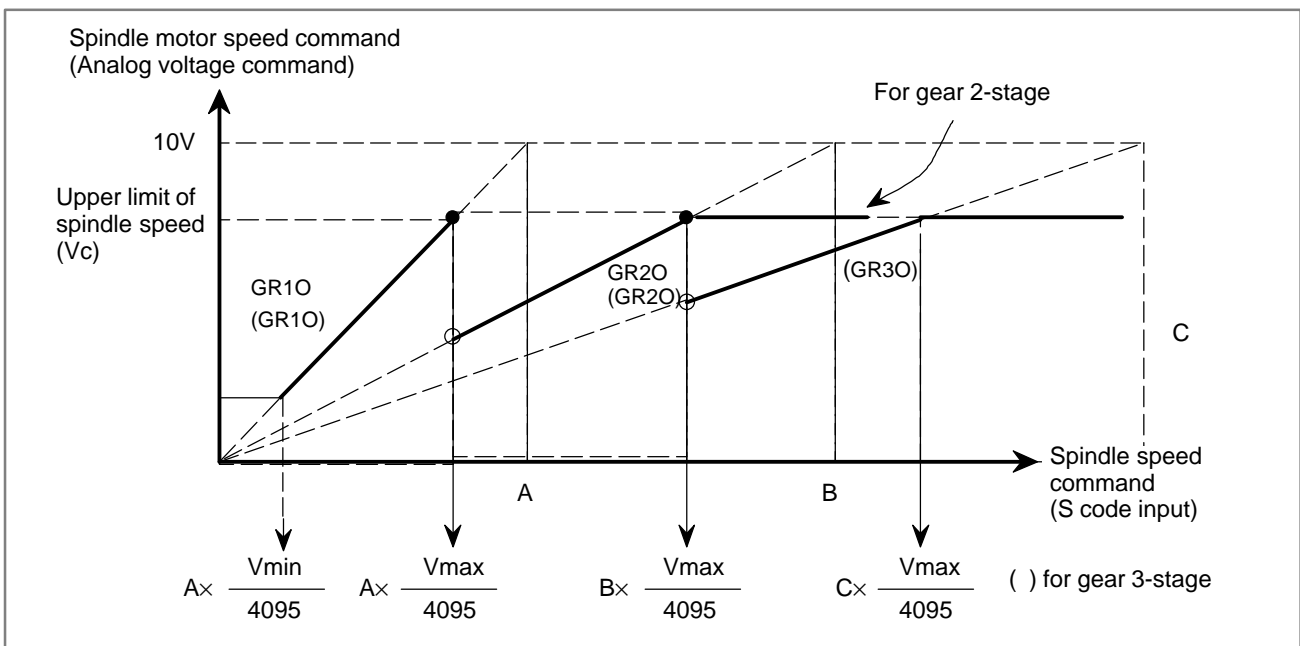

Fig. 9.3 (a) S code input and output voltage
- M type gear change method A (Fig. 9.3 (a))